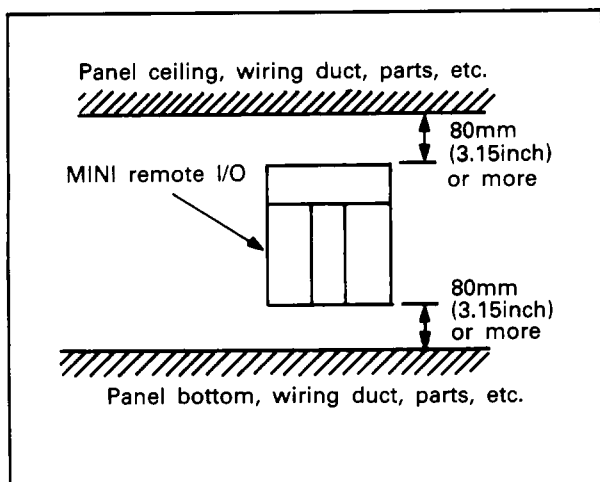
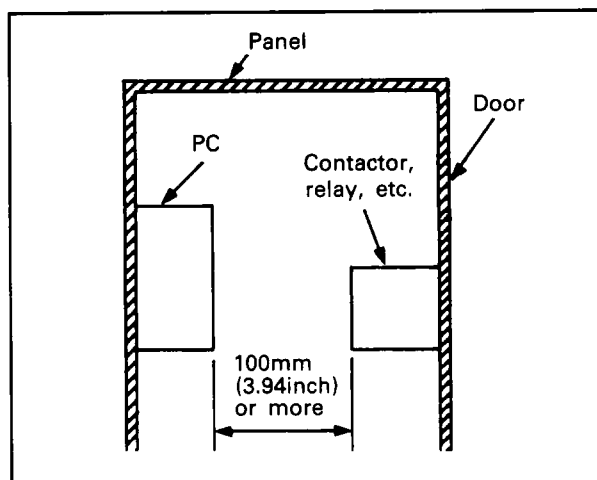

Fig. 4.1 Installing position of unit
Fig. 4.2 Clearance between PC and other devices
- (1) To provide good ventilation and to make unit replacement easy, allow a clearance of 80mm (3.15inch) or more between the top side of the unit and surrounding structure or parts. (See Fig. 4.1.)
- (2) Choose a flat surface for mounting the unit. Waves and warpage of the mounting surface will cause printed circuit boards in the unit to be strained or twisted, which lead to malfunction.
- (3) Mount the unit on a separate panel or away from large electromagnetic contactors and no-fuse circuit breakers which produce vibrations.
- (4) To avoid influence of radiation of noise or heat, allow a clearance of 100mm (3.94inch) or more if the PC faces such noise or heat radiating devices (when such devices are mounted on the back side of the door). (See Fig. 4.2.)